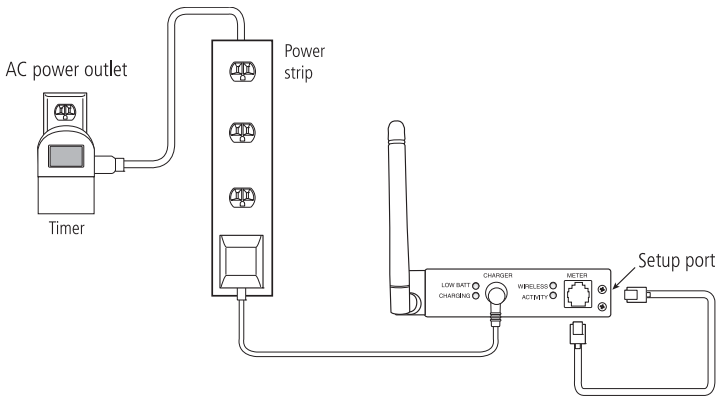

Figure 10 Setting up version 2 of the wireless unit for reforming
- 1 Set the unit(s) up for charging (see Figure 10 on page 22).**